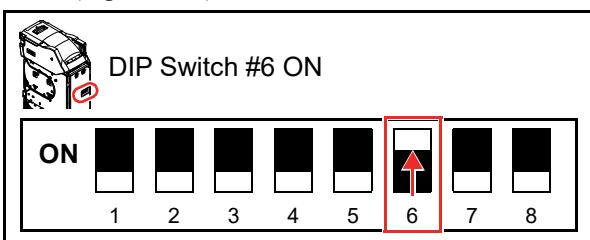

Figure 6-81 DIP Switch Test 2
3. Set the DIP Switches of the RT/RQ Unit as below (Figure 6-81).